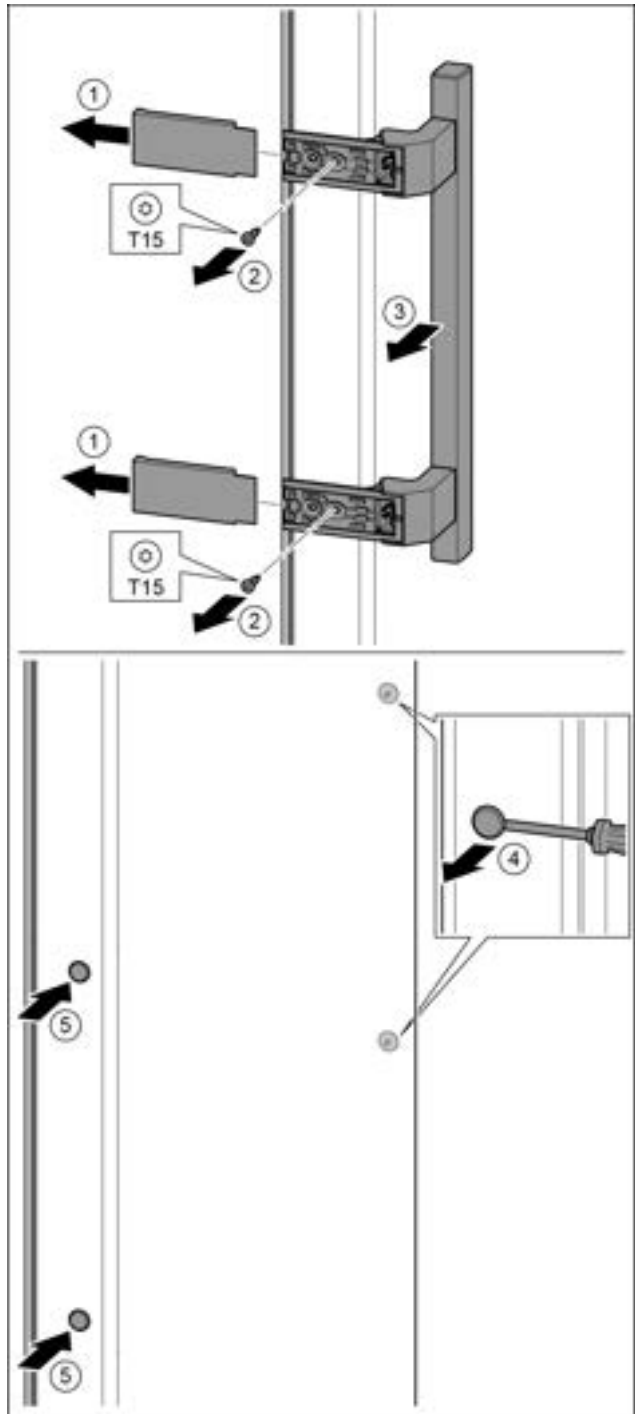

Fig. 19
- ▶ Pull off the cover. Fig. 19 (1)
- ▶ Remove the screws with the T15 screwdriver. Fig. 19 (2)
- ▶ Remove the handle. Fig. 19 (3)
- ▶ Carefully lift up the side plugs with a slotted screwdriver and pull them out. Fig. 19 (4)
- ▶ Insert the plugs again on the other side. Fig. 19 (5)